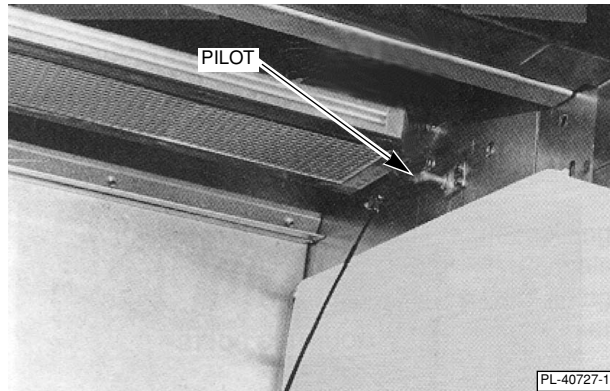

Fig. 10
3. Using a taper, light the pilots (Fig.10).